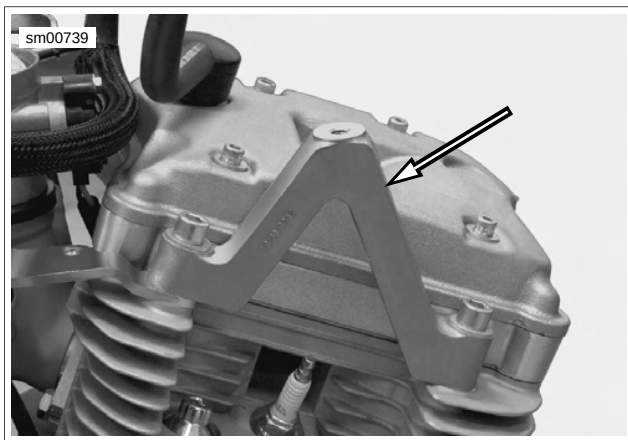

Figure 3-18. Center Tie Bar Mount
- See Figure 3-18. Center tie bar mount.